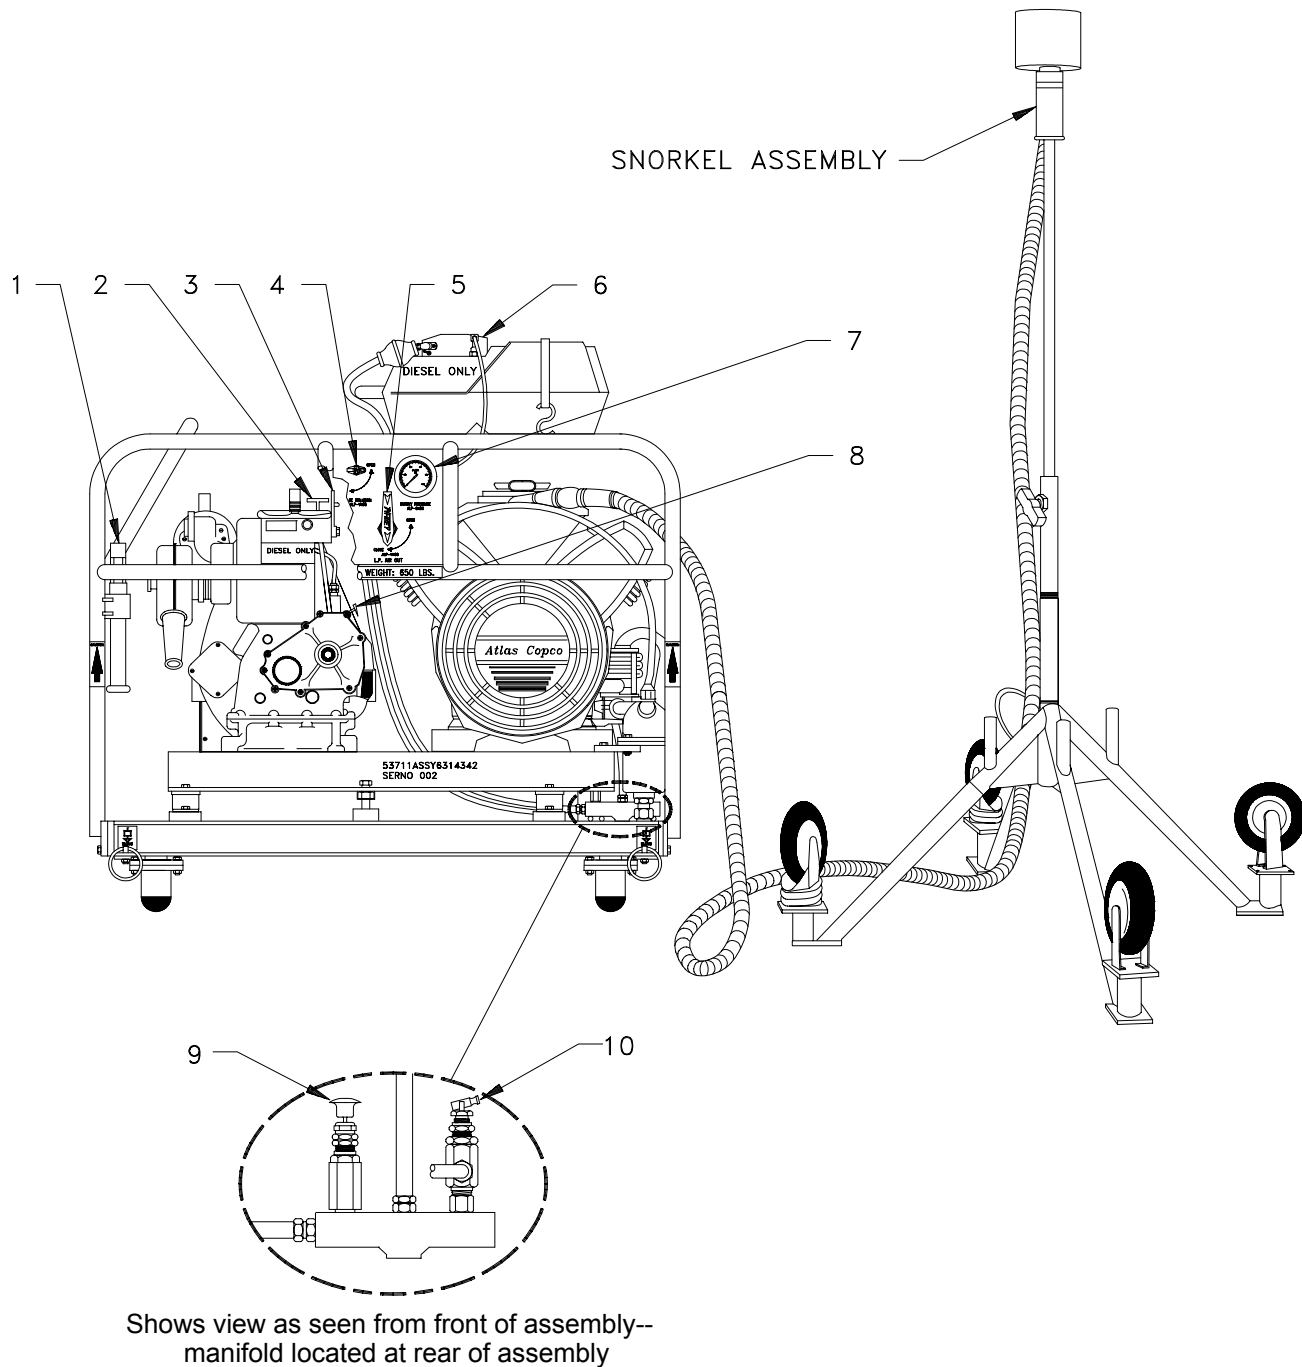

Figure 2-1. Diesel-Compressor Assembly with Snorkel Assembly
2.2.2 INITIAL CONTROL AND INDICATOR SETTINGS. Tables 2-3 through 2-6 identify the controls and indicators for the LWDS MK 3 Mod 0. The first column of each table contains index numbers that correspond to the callouts shown in Figures 2-1 through 2-7 (as indicated). Additional columns contain the panel labels shown on the equipment, Joint Identification Drawing (JID) numbers, and a brief description of each component's function. Prior to conducting operations, ensure all valves are turned fully clockwise in the closed or unloaded position. Turn HP regulators fully counterclockwise to close. Ensure all pressure indicators read zero, and all levers and handles are in the OFF or disengaged position.
(Refer to Figures 2-1 and 2-2)